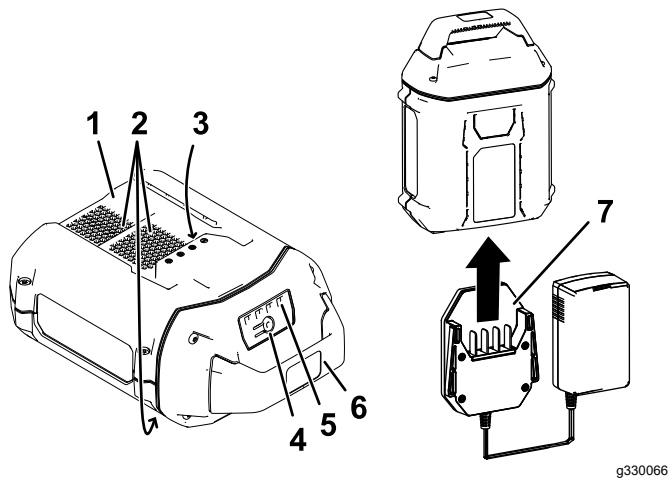

Figure 8
2. Line up the charger with the cavity on the back of the battery pack (Figure 8).
3. Slide the charger into the battery pack until it is fully seated (Figure 8).